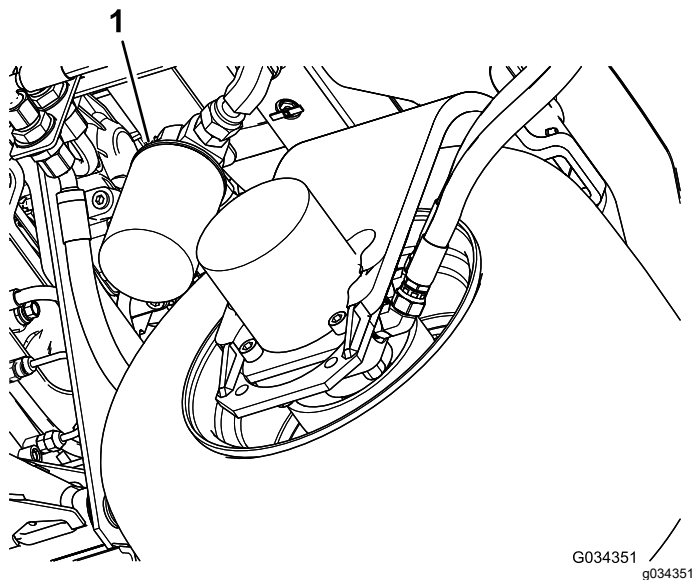

Figure 83
2. Clean around the filter mounting area. Place a drain pan under the filter (Figure 83) and remove the filter.